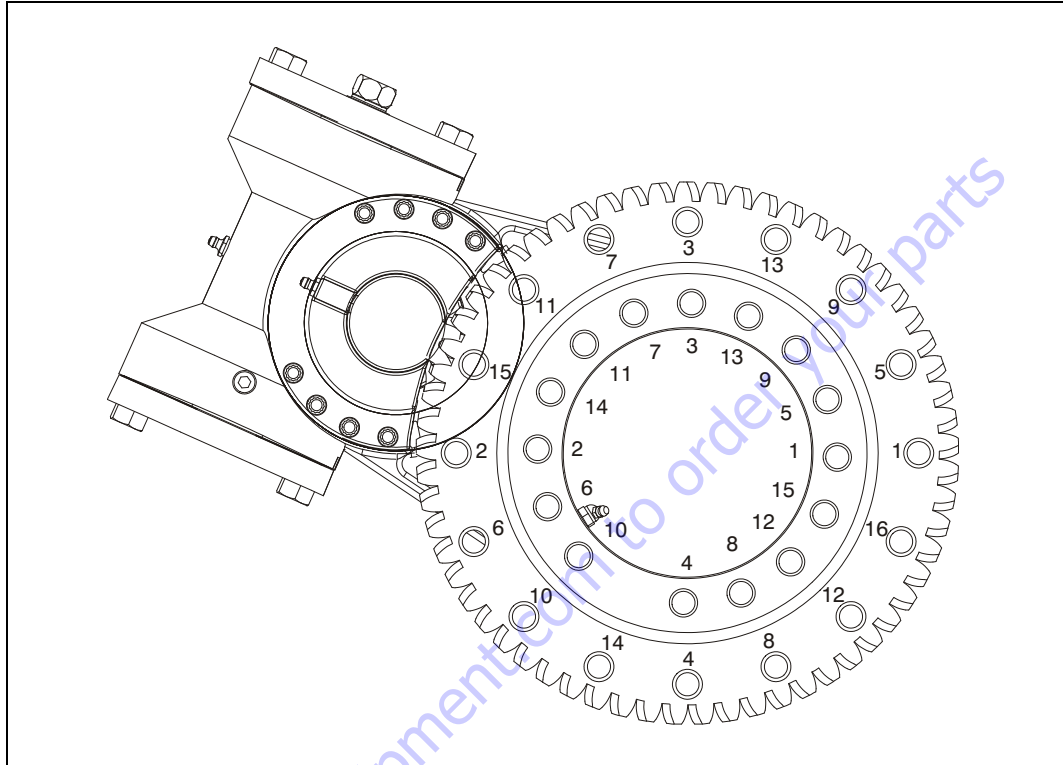

Figure 3-30. Swing Bearing Torque Sequence
- b. Line up high spot (blue) of bearing with center tooth of worm gear. Set backlash to 0.008 - 0.010 inch (0.20 - 0.25 mm). Tighten capscrews as shown in Figure 3-30., Swing Bearing Torque Sequence.
- f. Following the torque sequence diagram shown in Figure 3-30., Swing Bearing Torque Sequence, tighten the bolts to an initial torque of 140 ft. lbs. (190 Nm). Then following the same sequence, tighten to a final torque of 190 ft. lbs. (260 Nm).
- k. Following the torque sequence shown in Figure 3-30., tighten the bolts to an initial torque of 130 ft. lbs. (175 Nm). Then following the same sequence, tighten the bolts to 190 ft. lbs (260 Nm).